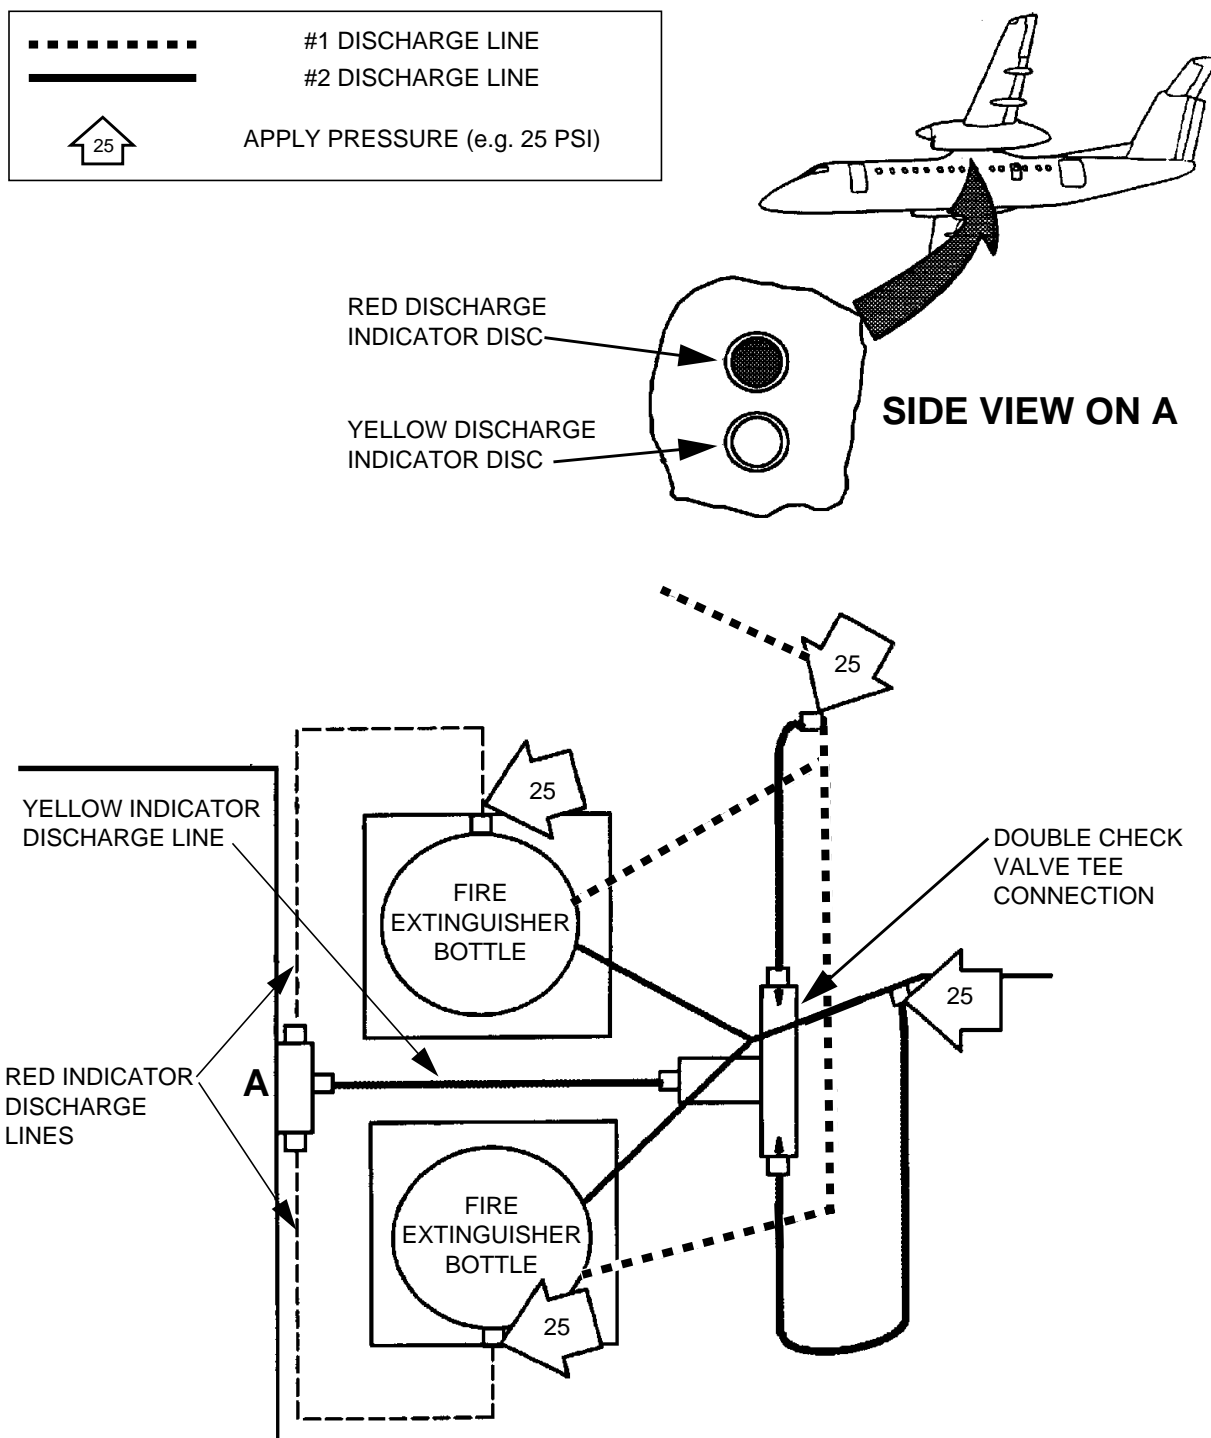

Figure 3 - Pressure Test of Yellow & Red Discharge Lines
5.5.2 For DASH 8 Series 100, 200 and 300 aircraft, pressure test yellow indicator discharge lines as follows (see Figure 3):
5.5.3 For DASH 8 Series 100, 200 and 300 aircraft, pressure test red indicator discharge lines as follows (see Figure 3):